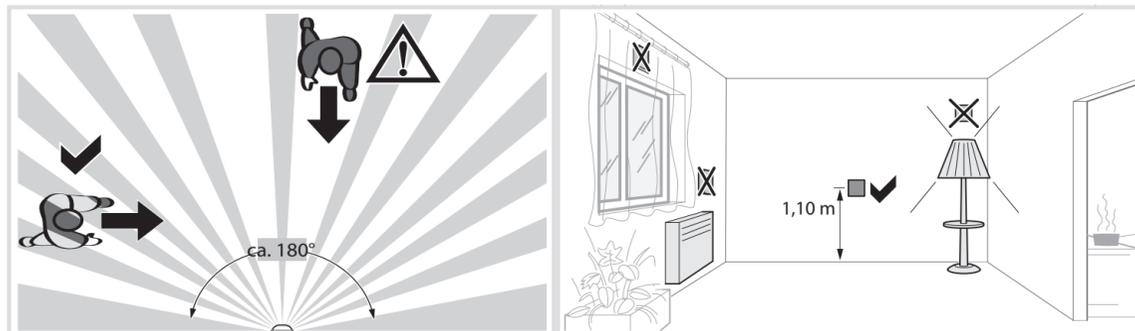
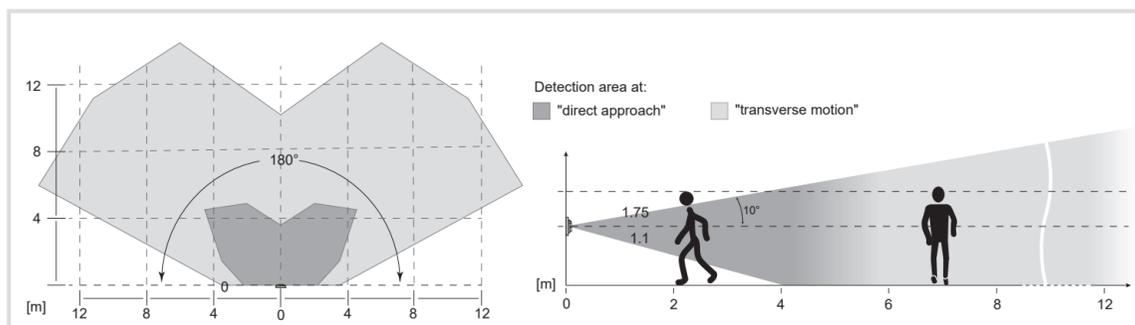

Figure 4: Installation location of the motion detectors and motion orientation
Figure 5: Detection area of the motion detector with nominal installation height 1.1 m
- Observe the motion orientation: a distinction is made between "direct approach" and "transverse motion". Motions transverse to the motion detector can be detected better than motions toward the motion detector (Figure 4, Figure 5).
- Avoid sources of interference in the detection area (Figure 5). Sources of interference, e.g. heating elements, ventilation systems, air conditioners and lamps that are cooling down can cause undesired switching (Figure 4).